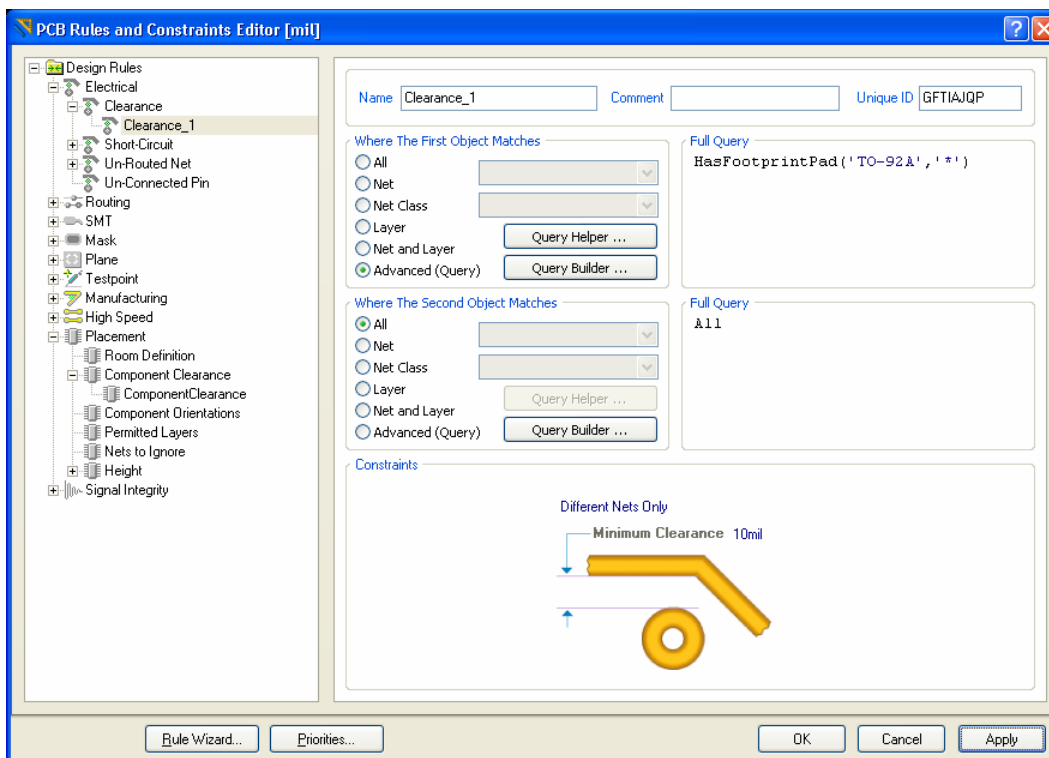

Figure 14. Using the PCB Rules and Constraints Editor dialog to create rules.
4. Click on **Advanced (Query)** and then click on **Query Helper** to construct the query from the Memberships Checks. Alternatively, type in the following query in the **Query** field for the first object (Figure 14):